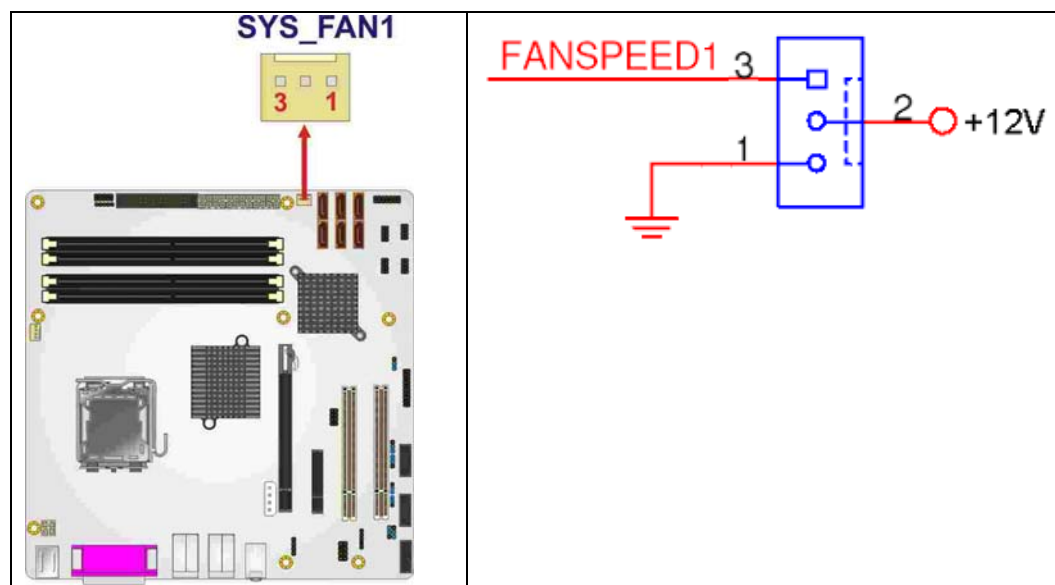

Figure 4-7: +12V Fan Connector Location
- CN Location:** See Figure 4-7